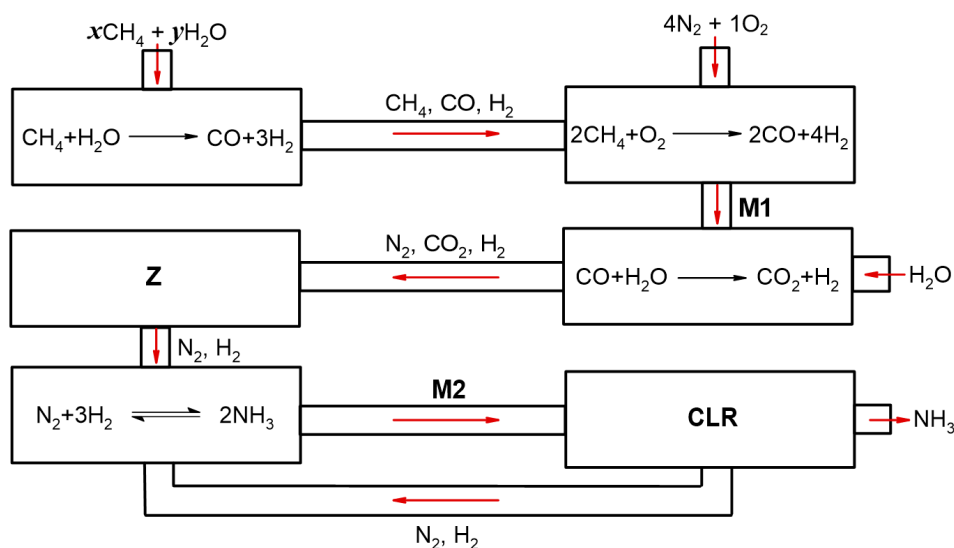

Fig. 1. **M1** - Mixture 1, **M2** - Mixture 2, **Z** – CO₂ scrubber, **CLR** - cooler
In the following calculations, assume that all reactions in **Fig. 1**, except NH₃ formation, are quantitative.
- 7.2** Calculate the mass of CH₄ (tons) required annually to produce 660,000 tons of ammonia, if the *Navoiazot* operates according to the **Fig. 1**. 8.0 pt